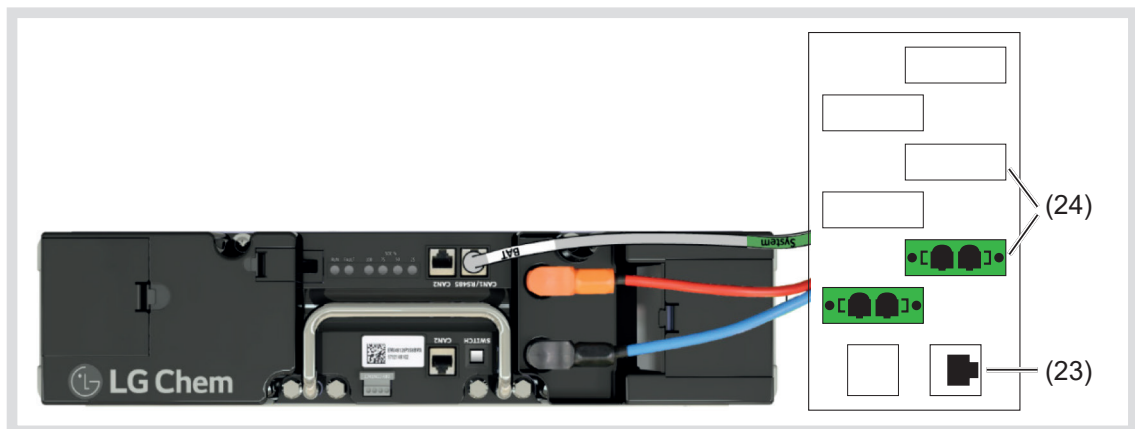

Figure 37: Battery module connection with one battery module
- From the battery power cable, (20) plug the orange battery plug into the + jack (10) and the black battery plug into the – jack (18) of the battery module (Figure 37).
- Plug the green plug of the battery power cable into a battery jack (24) of the battery connection field (Figure 37) and secure it by tightening the plug crews.
- Plug the green marked RJ45 plug (a) of the communication cable (21) into the RJ45 jack (23) of the battery connection field (Figure 37).
- Plug the white marked RJ48 plug (b) of the communication cable (21) into the RJ48 jack **CAN1/RS485** (11) of the battery module (Figure 37).
- From the battery power cable, (20) plug the orange battery plug into the + jack (10) and the black battery plug into the – jack (18) of the respective battery module (Figure 37).